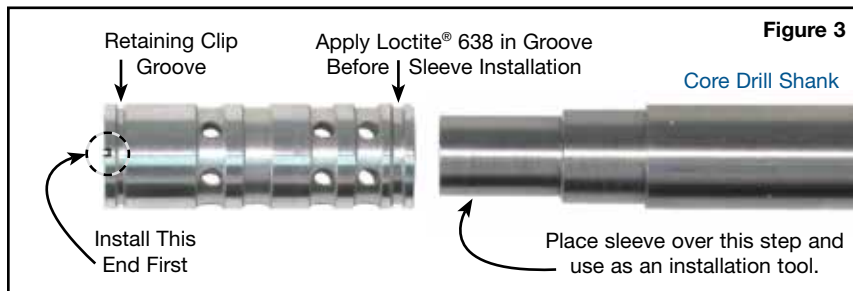

Figure 3
- d. The sleeve will fit over the shank end of Sonnax core drill, which can be used as an installation tool for the sleeve (**Figure 3**).